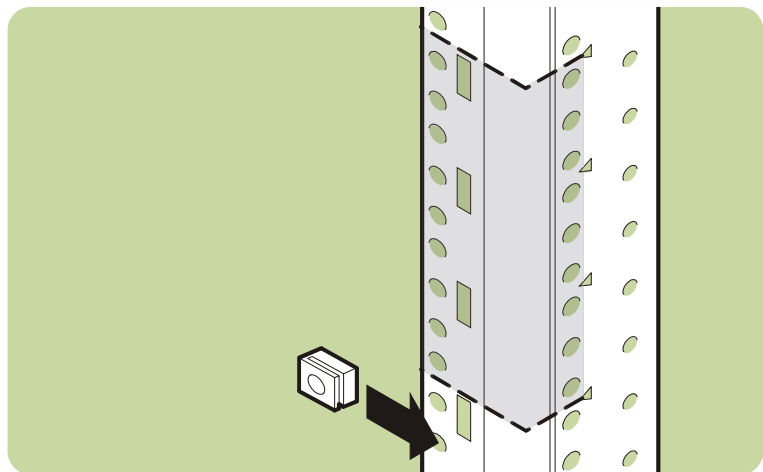

Fig. 24. Installing rail clip nuts in HP Computer Cabinet
4. Install one clip nut on the inside of each column (see Fig. 24).